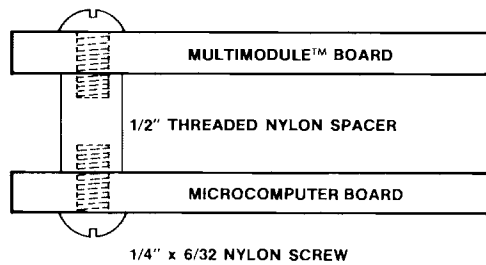
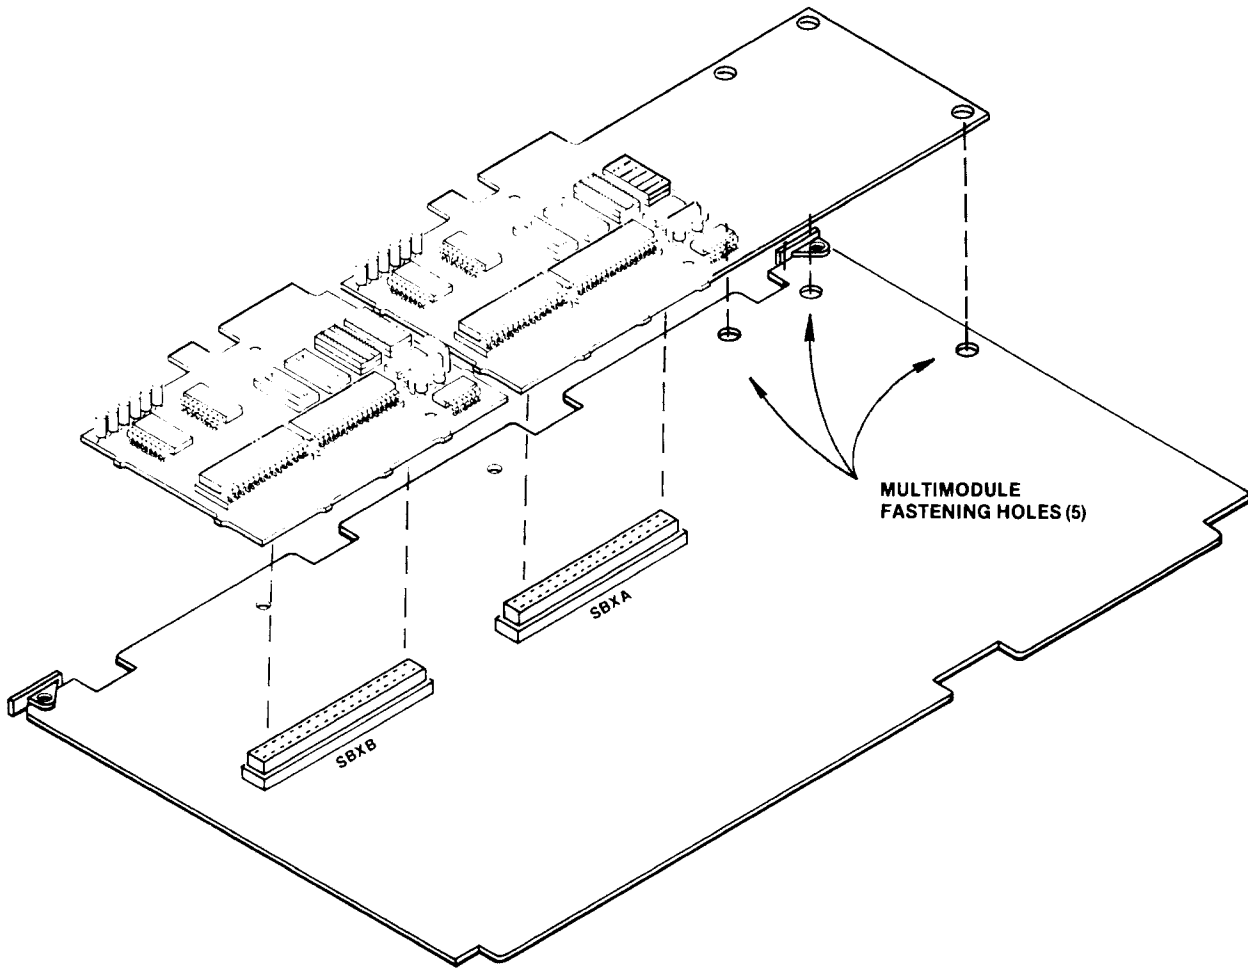

Figure 2-13. Spacer Installation Technique
Figure 2-14. iSBX™ Multimodule™ Board Orientation
1. With a nylon 1/4-inch x 6/32 screw, secure the 1/2 inch spacer (Figure 2-13) to the iSBC 86/14/30 board in the mounting hole for the Multimodule board being installed (refer to Figure 2-14) for hole location). If installing a double-wide Multimodule board onto the iSBC 86/14/30 board, mount 2 spacers as shown in Figure 2-13.
5. Secure the Multimodule board to the top of the spacer with the other 1/4-inch x 6/32 nylon screw. (Refer to Figure 2-13).